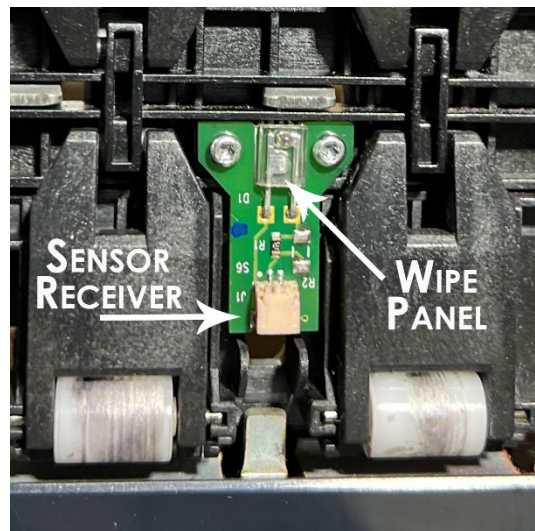

Figure 2, Sensor Receiver on Top of the Print Engine
3. Remember to wipe the clear panel over the Sensor Receiver in the upper Printhead Assembly as well. (**Figure 2**)